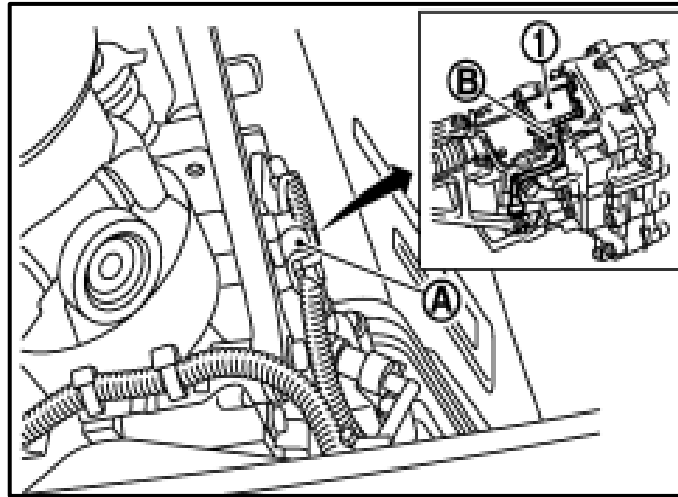

Figure 1
12. Disconnect (2) two heated oxygen sensors as outlined in Nissan FSM.
13. For those vehicles equipped with S-MODE, disconnect gear lever position sensor connector (A), as shown in *Figure 1*.